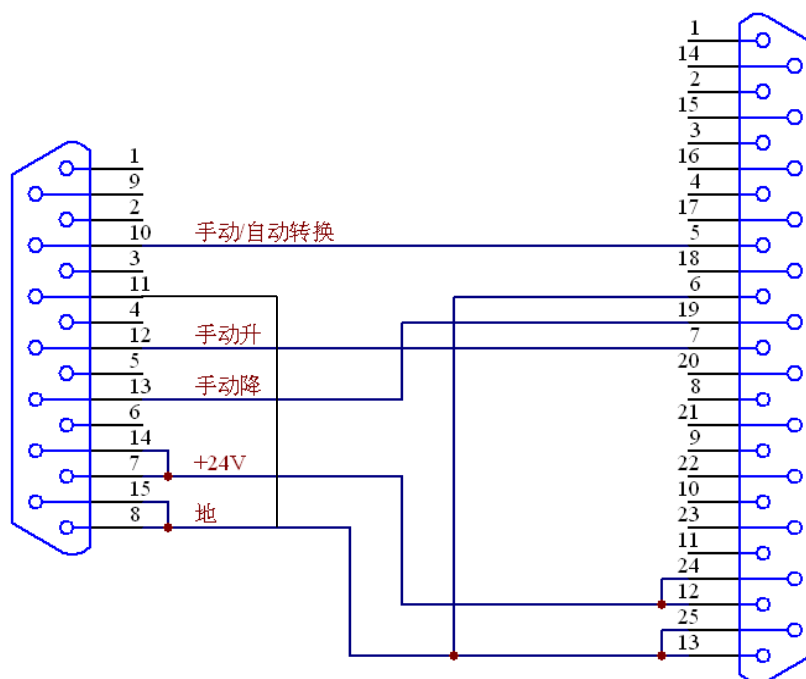

Fig. 3-7 Diagram of Capacitance Height Controller Connecting to Numeric Control System
- The high-frequency (HF) cable and connectors are special fittings; the HF cable can be provided 1000 mm according to various requirements.
- The connectors which connect Height Controller (15-Core connector) with Numeric Control System (25-core connector) are prepared by users. The Fig. 3-7 shows the connection; the detailed definitions of 15-core connector and 25-core connector are provided in Table 3-1 and Table 3-2.